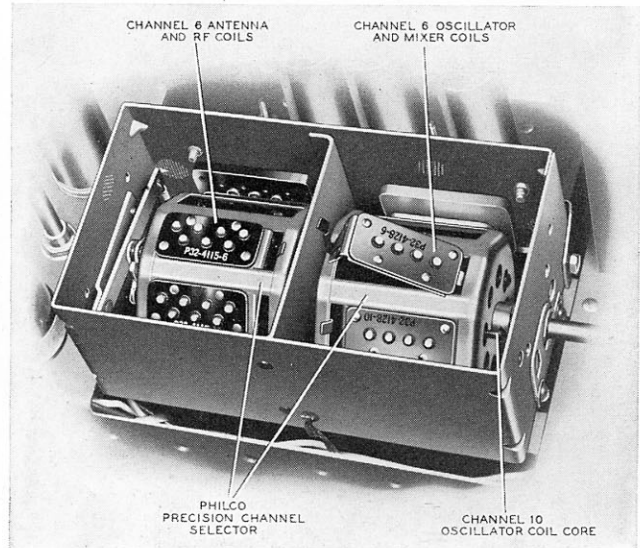

FIGURE 8. Proper Coil Insertion TP-3668
21. Refer to figure 8. The antenna and oscillator coils must be seated properly in the Philco Precision Channel Selector compartments. The oscillator coil, which is slug-tuned, should be in the front; the antenna coil, which is fixed tuned, should be in the rear. The coil part numbers should both end with same suffix numeral. The suffix indicates the television broadcast channel number. (For example, 32-4115-3 and 32-4128-3 are the oscillator and antenna coils for channel 3.)